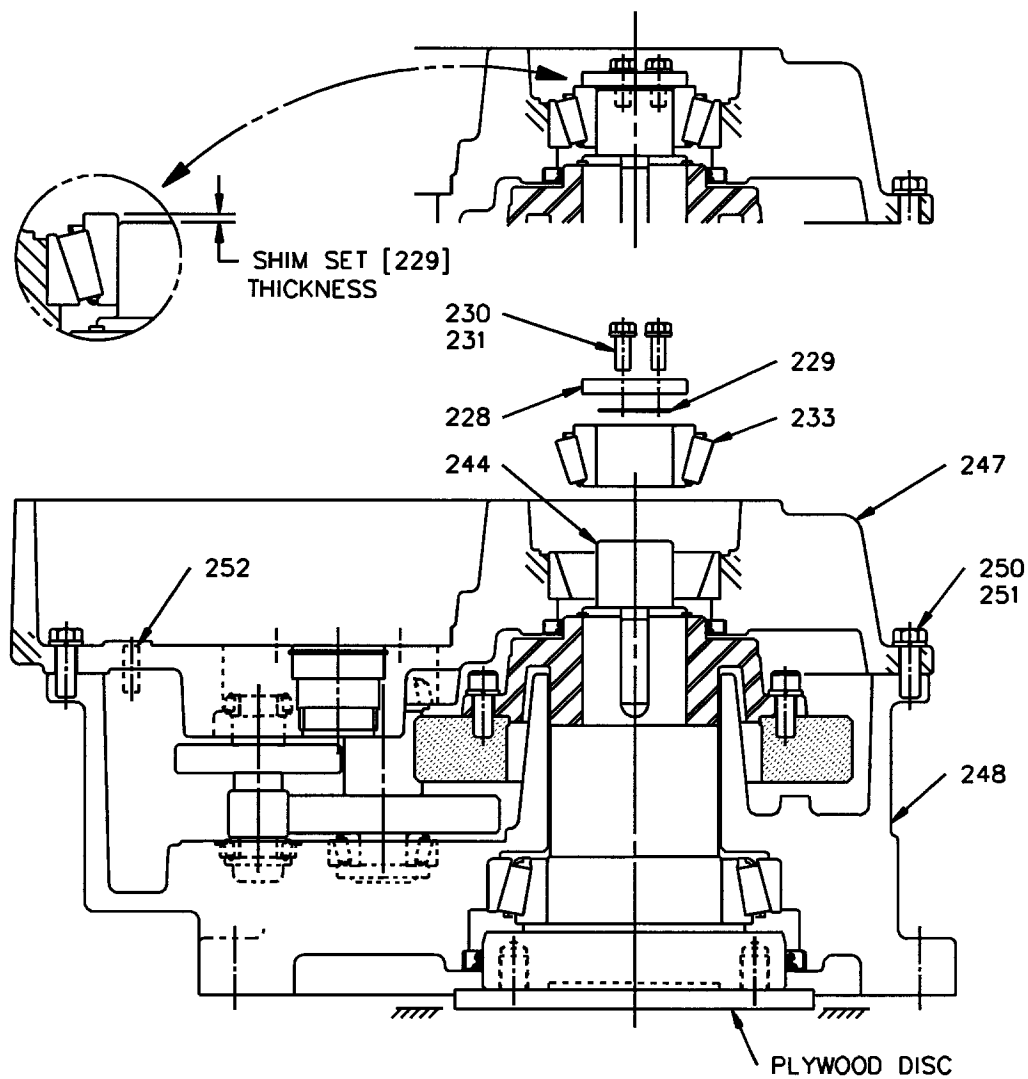

Figure 15: Gear Drive Assembly
Gear Drive (Figure 15, page 20)
16. Remove the nylon strap, measure the distance with a depth micrometer from the bearing cone face to the end of the output shaft. *See insert, Figure 15*. Record this measurement "B".